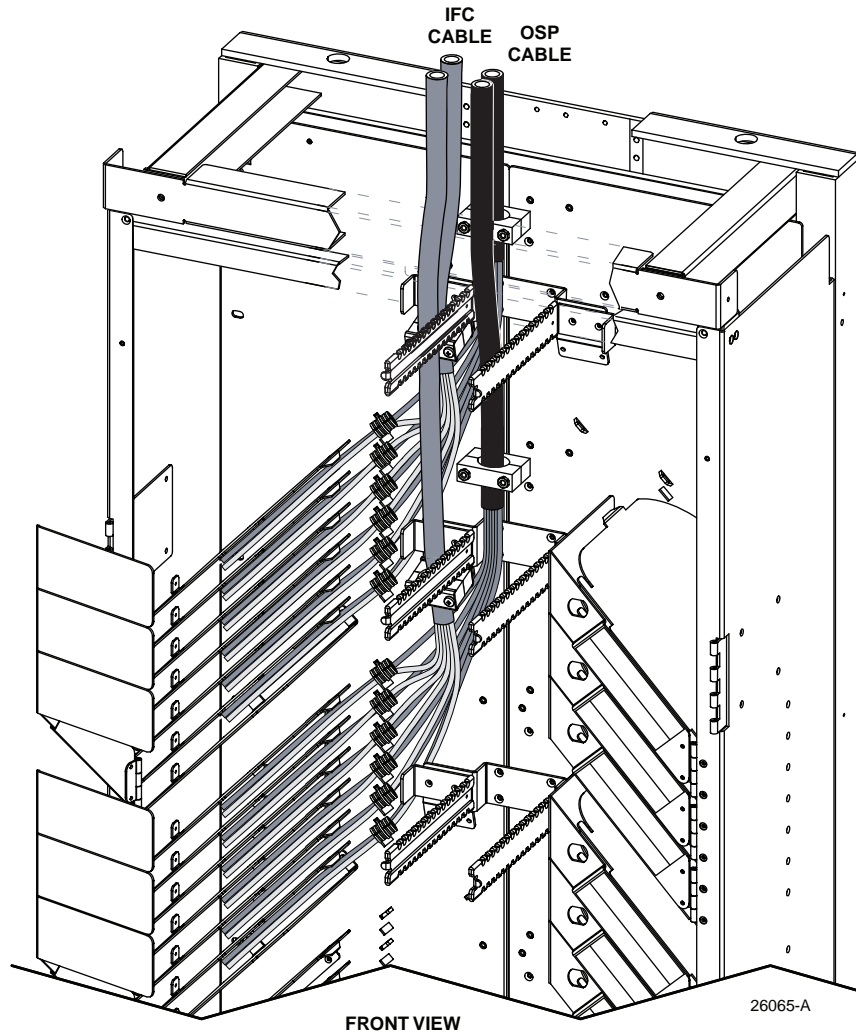

Figure 13. Second OSP and IFC Cable Routing Procedure
3. Route second OSP and IFC cable, respectively, as shown in Figure 13.